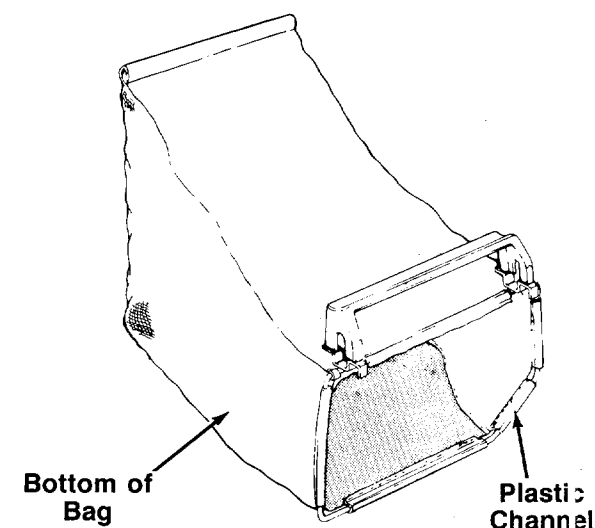

FIGURE 11.
1. Place bag over frame (black plastic side is the bottom of bag). Handle on frame goes to the top of bag. Brackets hook toward the front. See figure 11.
2. Secure bag to frame by slipping plastic channels on bag over frame. See figure 11.